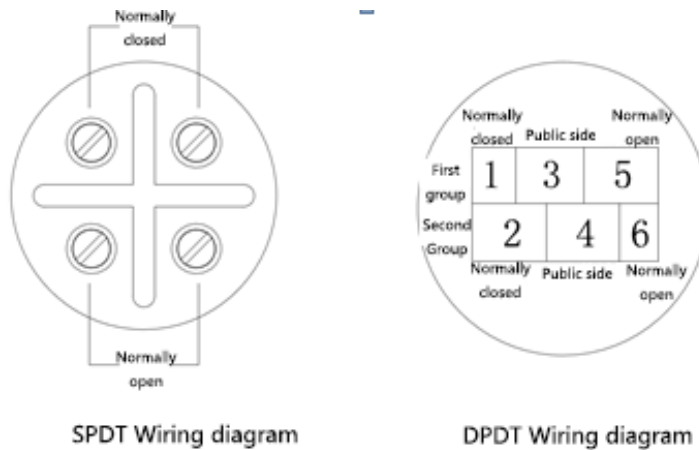

Figure8 Electrical wiring
2. According to the wiring diagram wiring, please note that the over-reporting and under-reporting switches are opposite. Be sure to connect to the correct terminal according to the wiring diagram (see Figure 8). For the SPDT
7.3.1 Ordinary float level controller, lift or lower the float to simulate level lift before installation, and use a multimeter to verify whether the output status is correct (Figure 8 output status is empty can state).